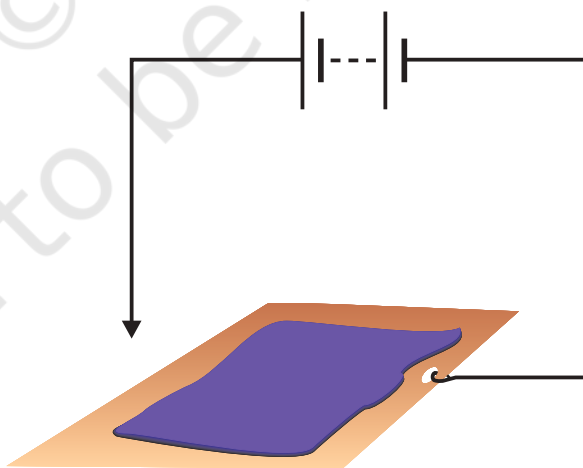

Fig. 14.11
6. You can make a fun pen for yourself. Take a conducting metal plate and spread a moist paste of potassium iodide and starch. Connect the plate to a battery as shown in Fig. 14.11. Now using the free end of the wire, write a few letters on the paste. What do you see?